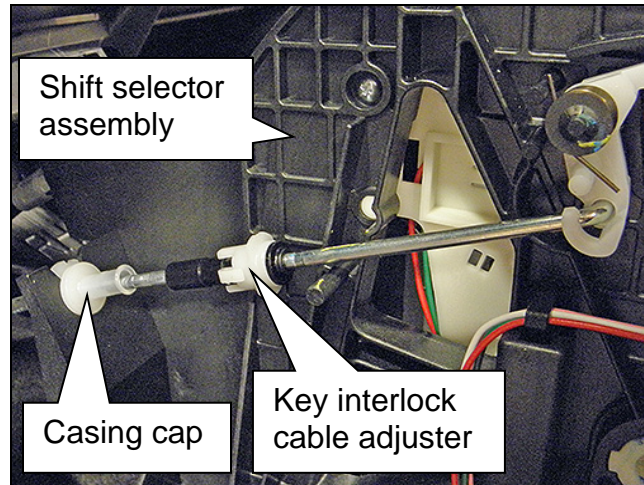

Figure 2
1. Remove the center console finisher to gain access to the key interlock cable adjuster shown in Figure 2.
- Confirm that the casing cap is fastened to the cable bracket (Figure 2).